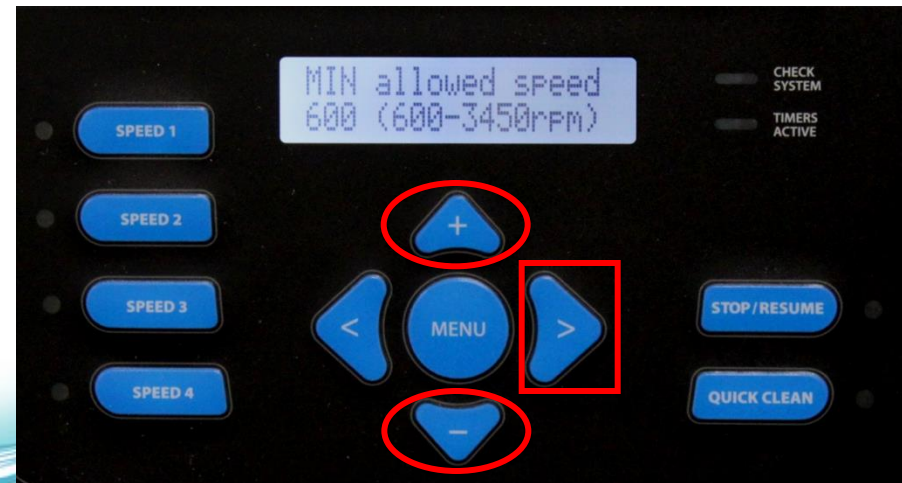

Figure 34
10. You will now see the MIN allowed speed. Same as #10 above for setting speed (fig 34). Press the  button to continue.